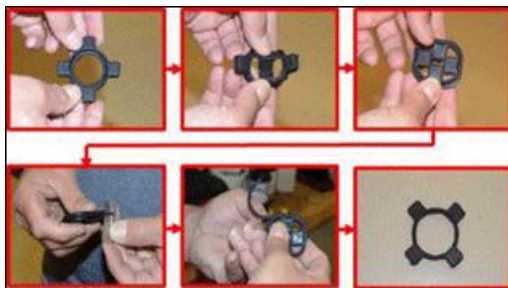

Fig. 4 Trim Snubber
Step 4. Prior to installing the snubbers, fold them inside out and trim the excess inner rib with a razor blade as shown in (Fig. 4). Return the snubbers to their original state and insert between the vehicle body and the left and right upper crossmember mount.